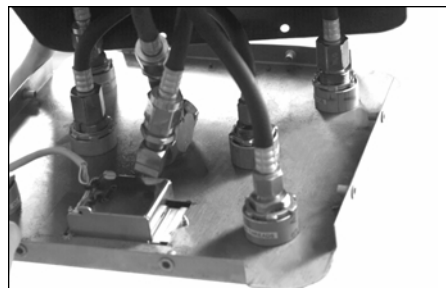

Figure 2
3. Pull down on the cover plate until the valves are accessible (Figure 2).